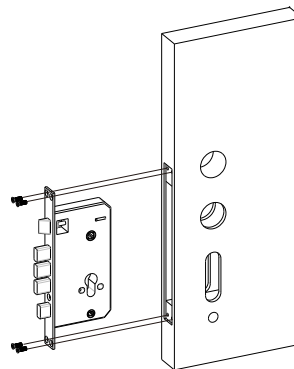

Fig. 1
1. Insert the lock body into the drilled hole and tighten it with Screw A (as shown in Fig. 1).